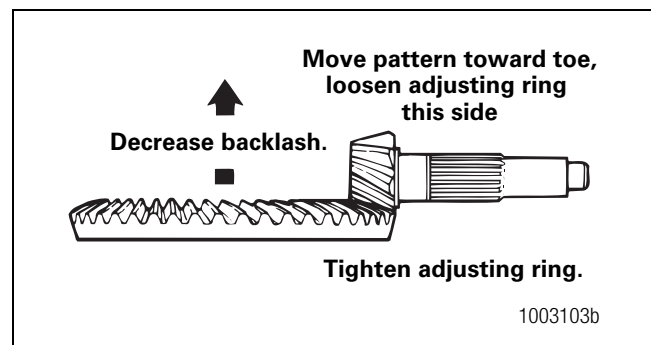

Figure 5.74
- A. Decrease the backlash to move the contact patterns toward the toe of the ring gear teeth. Figure 5.74.